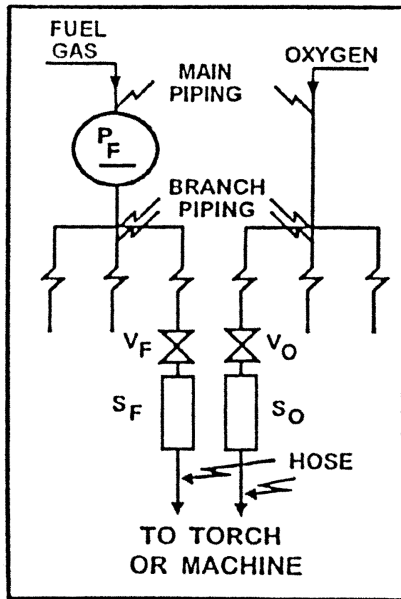
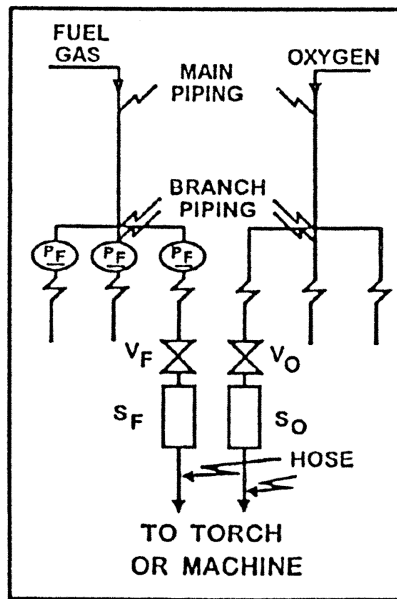
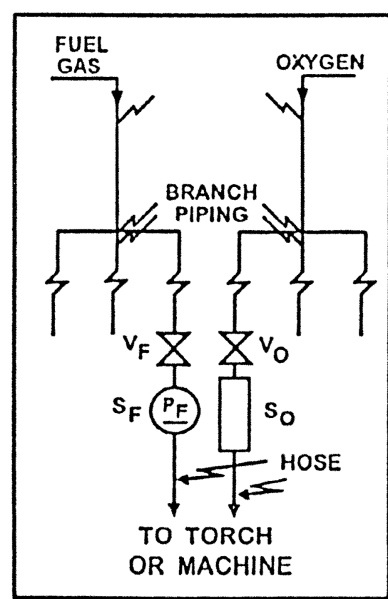

Fig. 1
Fig. 2
Fig. 3
(3) The protective equipment must be located in the main supply line, as in Figure 1 or at the head of each branch line, as in Figure 2 or at each location where fuel-gas is withdrawn, as in Figure 3. Where branch lines are of 2-inch pipe size or larger or of substantial length, protective equipment (designated as PF) must be located as shown in either 2 or 3.
(4) Backflow protection must be provided by an approved device that will prevent oxygen from flowing into the fuel-gas system or fuel from flowing into the oxygen system (see SF, Figs. 1 and 2).
(5) Flash-back protection must be provided by an approved device that will prevent flame from passing into the fuel-gas system.
(6) Back-pressure protection must be provided by an approved pressure-relief device set at a pressure not greater than the pressure rating of the backflow or the flashback protection device, whichever is lower. The pressure-relief device must be located on the downstream side of the backflow and flashback protection devices. The vent from the pressure-relief device must be at least as large as the relief de-